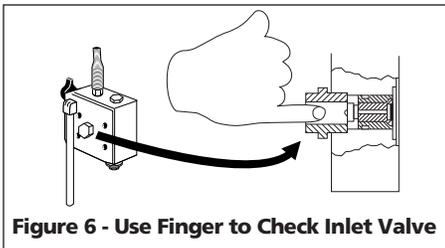

Figure 6 - Use Finger to Check Inlet Valve
5. Remove Inlet Valve Cap and with your smallest finger, push on Inlet Valve Stem to ensure it moves freely (See Figure 6).